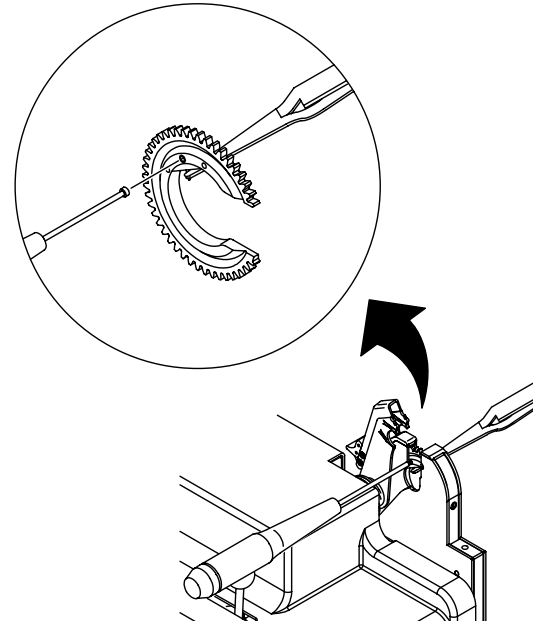

Figure 60 *Removing the Electrode*
4. Remove the electrode set screw. See Figure 60.